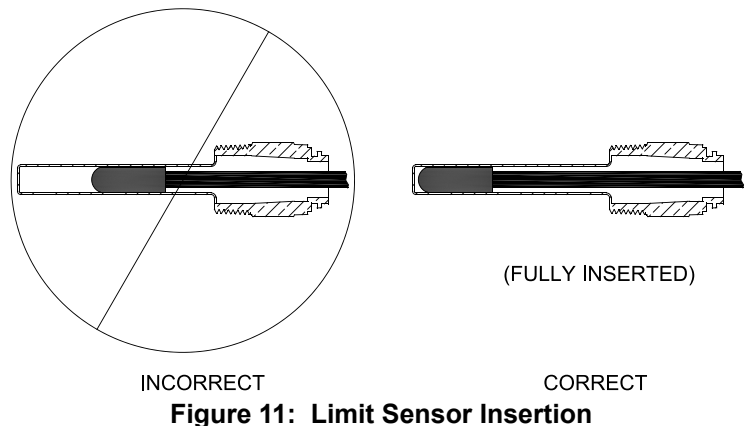

Figure 11: Limit Sensor Insertion
- b. On water boilers with rear tankless heater, the factory wired Warm Start Boiler Control was not installed in heater. Locate ¾" NPT immersion well, apply sealant, thread into ¾" NPT tapping on tankless heater and tighten with wrench. Apply heat transfer paste (not furnished) to limit sensor and fully insert limit sensor into immersion well such that the tip on the limit sensor touches the bottom of the immersion well. See Figure 11. Tighten clamp screws to secure Warm Start Boiler Control to immersion well. Secure Boiler Control conduit to jacket right side panel with 5/8" cable clamp provided, refer to Figure 1B. Make the wiring connections as shown on Figure 22.